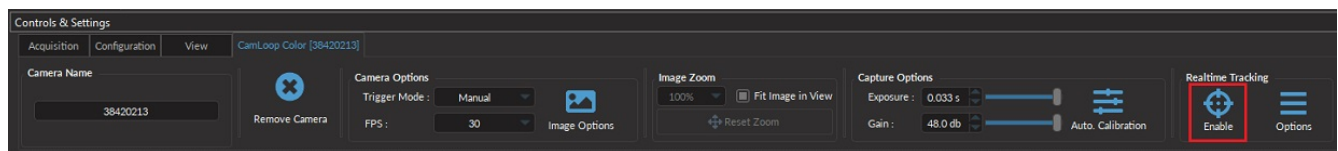
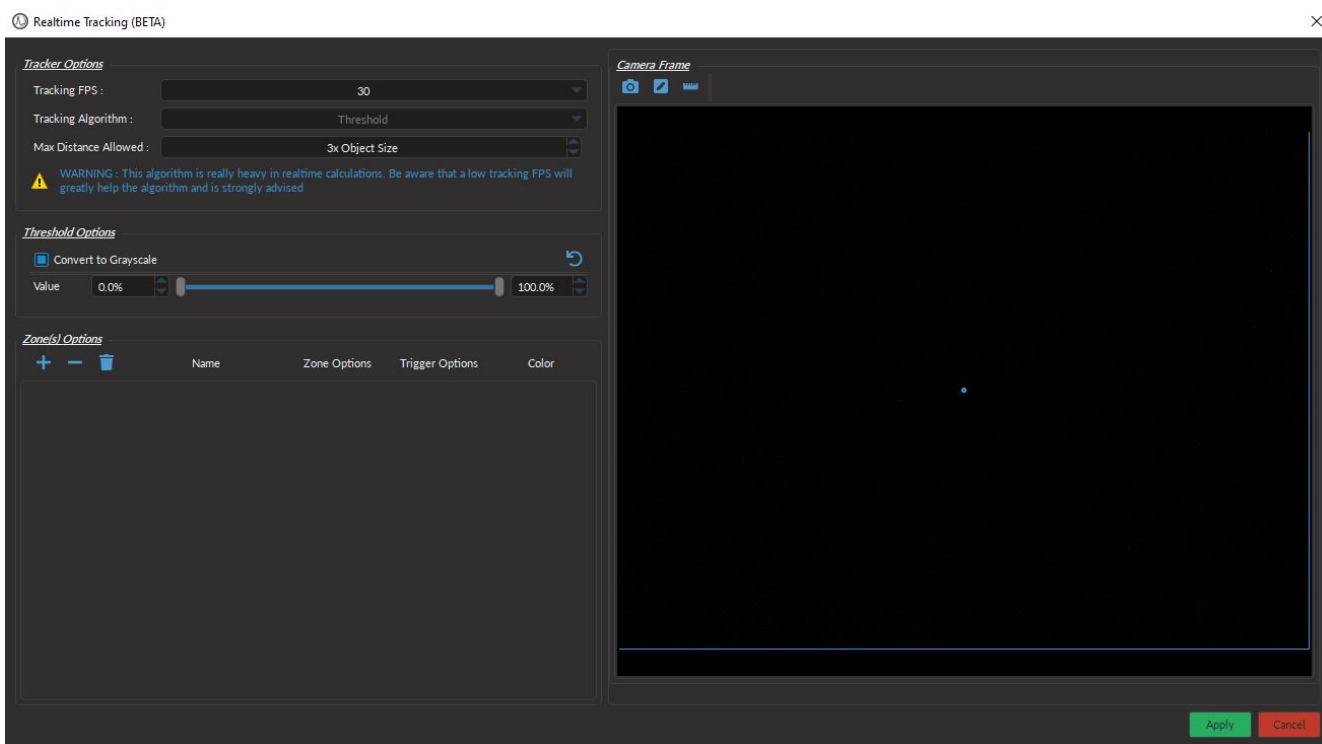

Figure 6.21: CamLoop settings tab
Figure 6.22: Realtime Tracking setting
To activate the tracking, in the camera settings tab, under **Real-time Tracking** section (Fig. 6.21), click **Enable**. Next press the **Options** button in the same section. This will open a new window (Fig. 6.22) to set the parameters of tracking and draw zones in the arena.
1. The **Tracking FPS** (Fig. 6.22) refers to the frames per second used for real-time decoding of the animal's position. The tracking software requires a fast computer with sufficient memory to function effectively, which may not be available on all systems. To improve performance, users can lower the tracking FPS. This adjustment allows the algorithm to run more smoothly, ensuring better tracking results.
2. The **Tracking Algorithm** (Fig. 6.22) indicates the method utilized for tracking. At present, the only option available with the Doric CamLoop camera is the threshold-based algorithm.
3. The **Max Distance allowed** is a parameter to detect unknown/false animal tracking. Choosing 3x means any object that moves 3x larger than the size of the mouse in the next frame, cannot be considered as real data. (Fig. 6.22).
4. The **Threshold options** (Fig. 6.22) is used to assess the color value of the mouse's body in relation to the background, enabling the identification of the mouse. The **Convert to Grayscale** checkbox will convert color pixels to binary, black & white pixels with corresponding intensity levels. This setting is ideal if the animal and background differ in color (e.g. black animal on a white background, or white animal on a black background). When the **Convert to Grayscale** is unchecked users can set the range values (either **Hue**, **Saturation** or **Value**) that correspond to the moving animal in order to differentiate it from the background.
5. The **Zones Options** (Fig. 6.22) is where users can define all zones within an arena.
- b) The **Trigger Options...** opens a new window (Fig. 6.22) that allows users adjust different parameters including:
- c) The **Minus** (Fig. 6.22) is used to remove the latest zone created in the arena.
- d) The **Recycle-bin** (Fig. 6.22) is used to clear all the zones at once.
6. The **Camera Frame** (Fig. 6.22) has the following three keys: